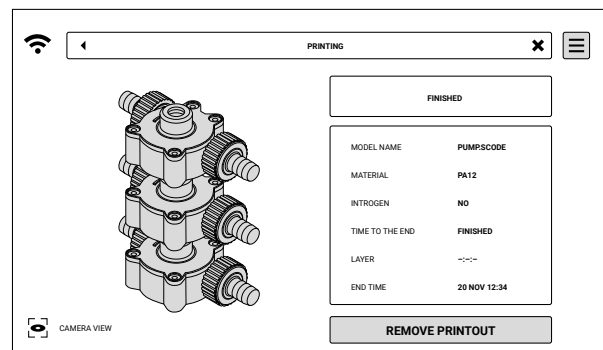

Fig. 8.1 The screen informs the user that the printing is finished.
1. Once the screen displays a message saying **FINISHED** (fig. 8.1) the printing process is over. Choose **REMOVE PRINTOUT** to retrieve it from the print chamber.